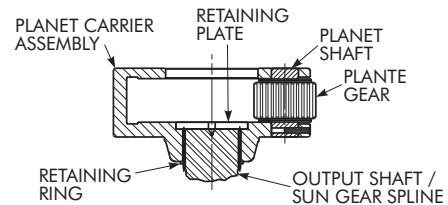

FIGURE 5
- c. Lower carrier assembly on to the output shaft or sun gear spline. The carrier housing should come to a rest on the retain ring mounted to the shaft or gear; reference Figure 5.